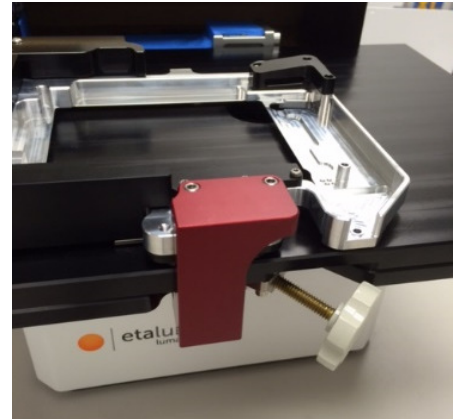
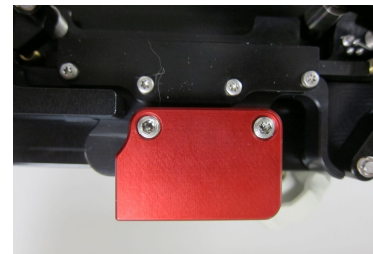

Fig 1. Shipping lock installed on LS720
Fig 2. Installed shipping lock from top showing 2 set screws
1. Fig. 1 shows how the LS720 arrives with the red shipping lock installed. Using the supplied 3 mm hex wrench, loosen the 2 set screws on the top of the installed shipping lock (Fig 2). Loosen the 2 set screws (smaller and more internal) on the bottom of the lock (Fig. 3).
6. Slide shipping lock into position at front of deck just left of the Deck Knob (Fig 1) so the 2 holes in the shipping lock line up with 2 holes
7. Tighten the 4 set screws in the shipping lock with the 3 mm hex wrench until just tight with plate carrier (top 2 screws, Fig 2) and deck surface (bottom 2 screws, Fig 3). Do NOT over tighten. Set screw heads will be approximately even with shipping lock surface.